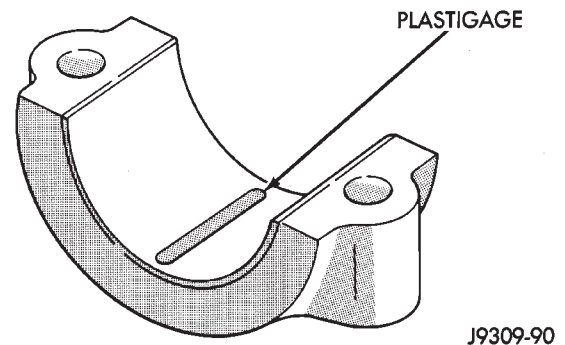
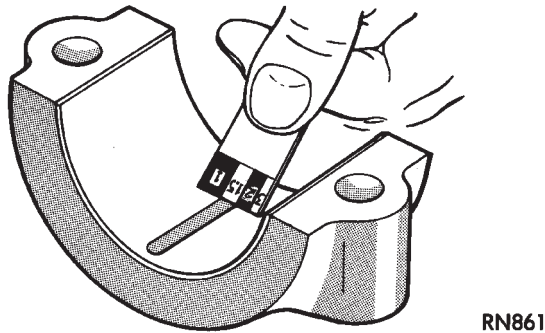

Fig. 2 Placement of Plastigage in Bearing Shell
Fig. 3 Clearance Measurement
(3) Place a piece of Plastigage across the entire width of the bearing cap shell (Fig. 2). Position the Plastigage approximately 6.35 mm (1/4 inch) off center and away from the oil holes. In addition, suspect areas can be checked by placing the Plastigage in that area. Tighten the bearing cap bolts of the bearing being checked to 108 N·m (80 ft. lbs.) torque. **DO NOT rotate the crankshaft or the Plastigage may be smeared, giving inaccurate results.**
(4) Remove the bearing cap and compare the width of the flattened Plastigage with the scale provided on the package (Fig. 3). Plastigage generally comes in 2 scales (one scale is in inches and the other is a metric scale). Locate the band closest to the same width. This band shows the amount of clearance. Differences in readings between the ends indicate the amount of taper present. Record all readings taken (refer to Engine Specifications).
(5) Plastigage is available in a variety of clearance ranges. The 0.025-0.076 mm (0.001-0.003 inch) range is usually the most appropriate for checking engine bearing clearances.
(1) Remove oil film from surface to be checked. Plastigage is soluble in oil.
(2) Place a piece of Plastigage across the entire width of the bearing cap shell (Fig. 2). Position the Plastigage approximately 6.35 mm (1/4 inch) off center and away from the oil holes. In addition, suspect areas can be checked by placing the Plastigage in the suspect area.
(3) The crankshaft must be turned until the connecting rod to be checked starts moving toward the top of the engine. Only then should the rod cap with Plastigage in place be assembled. Tighten the rod cap nut to 45 N·m (33 ft. lbs.) torque. **DO NOT rotate the crankshaft or the Plastigage may be smeared, giving inaccurate results.**